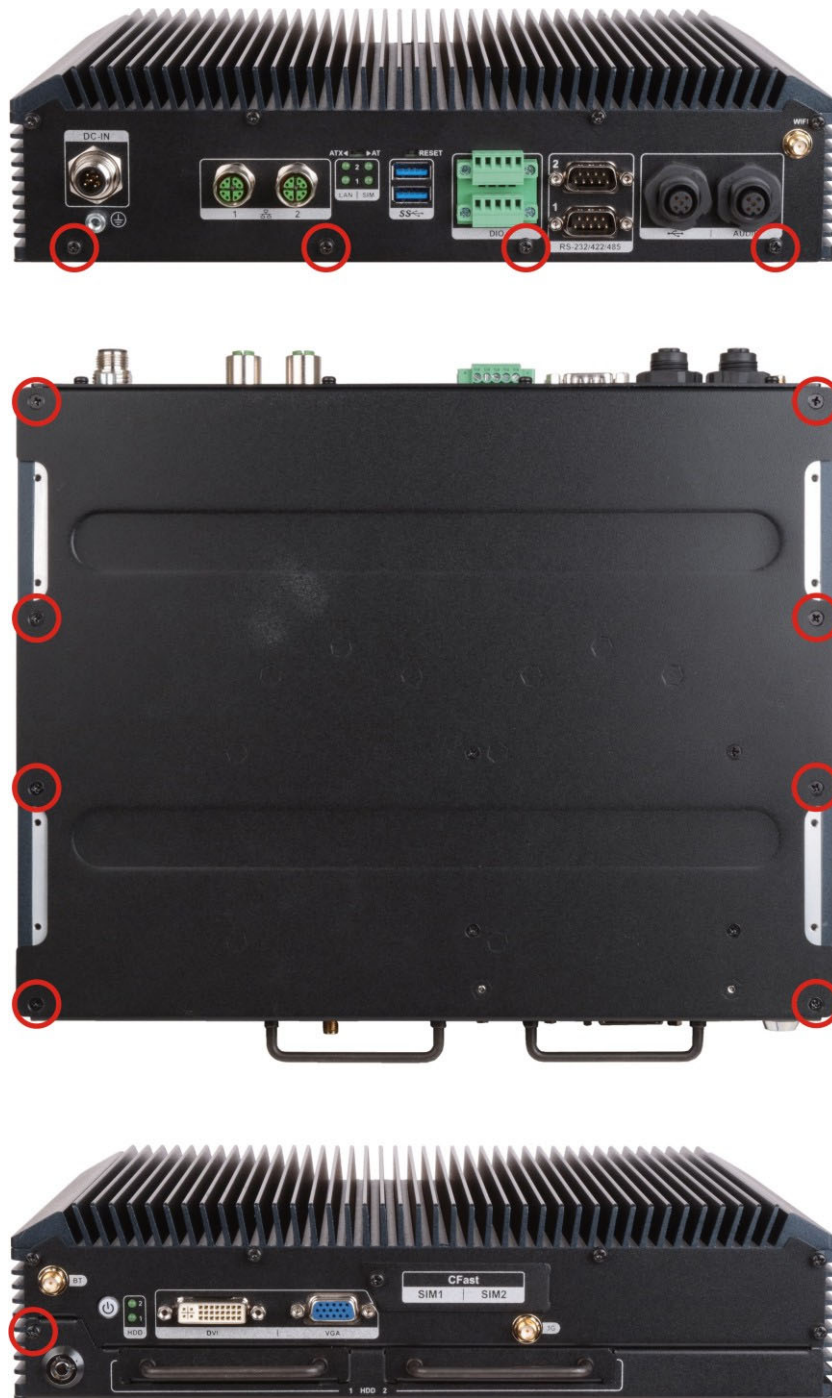

Figure 3-1: Bottom Cover Retention Screws
- Step 2:** Remove the bottom cover retention screws (**Figure 3-1**). The bottom cover is secured to the chassis with twelve retention screws (four on the rear panel).